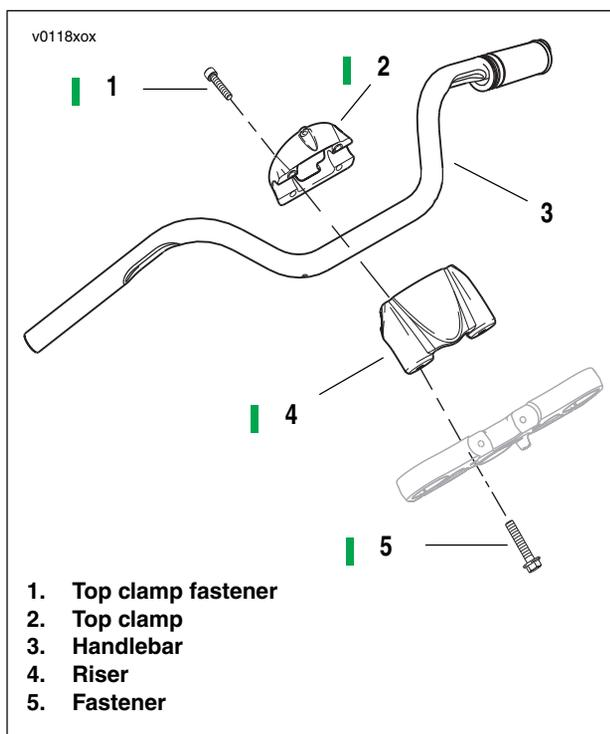

Figure 2-65. Top Clamp, Handlebar, and Riser
11. See Figure 2-65. Supporting the handlebars (3), loosen and remove the 4 fasteners (1) holding the top clamp (2).
12. Remove the handlebars (3).
14. If necessary, loosen and remove the two fasteners (5) securing riser (4) to upper fork clamp and remove the riser (4).
1. Install cast riser on upper triple clamp (4). Tighten fasteners to 41-47 Nm (31-35 ft-lbs).
4. Figure 2-65. Position handlebars for rider posture and hold in position.